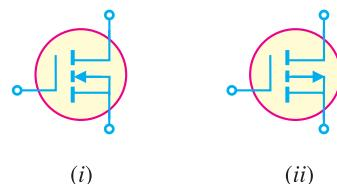

Fig. 19.57
**Schematic Symbols.** Fig. 19.57 (i) shows the schematic symbols for  $n$ -channel  $E$ -MOSFET whereas Fig. 19.57 (ii) shows the schematic symbol for  $p$ -channel  $E$ -MOSFET. When  $V_{GS} = 0$ , the  $E$ -MOSFET is *OFF* because there is no conducting channel between source and drain. The broken channel line in the symbols indicates the normally *OFF* condition.